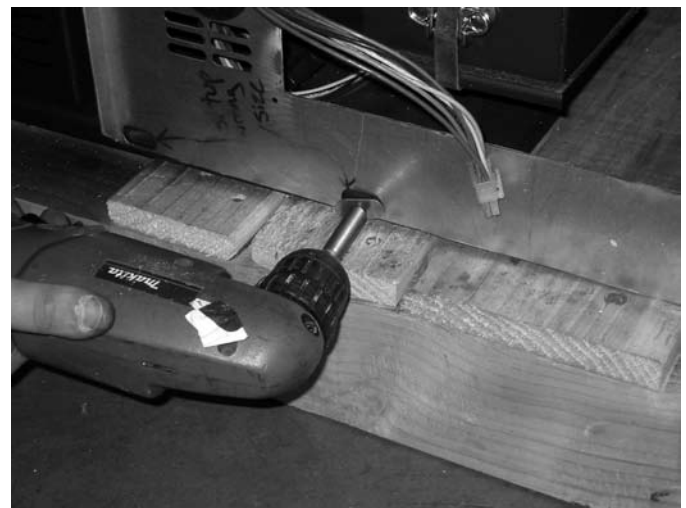

Figure 62
7. Final step: Using the four oblong washers and 4 sheet metal screws, insert two on each lower side of your ZC box shown in **Figure 62**. You are now ready to install your pellet insert. **Follow all vent clearances stated in the installation and operation manual.**